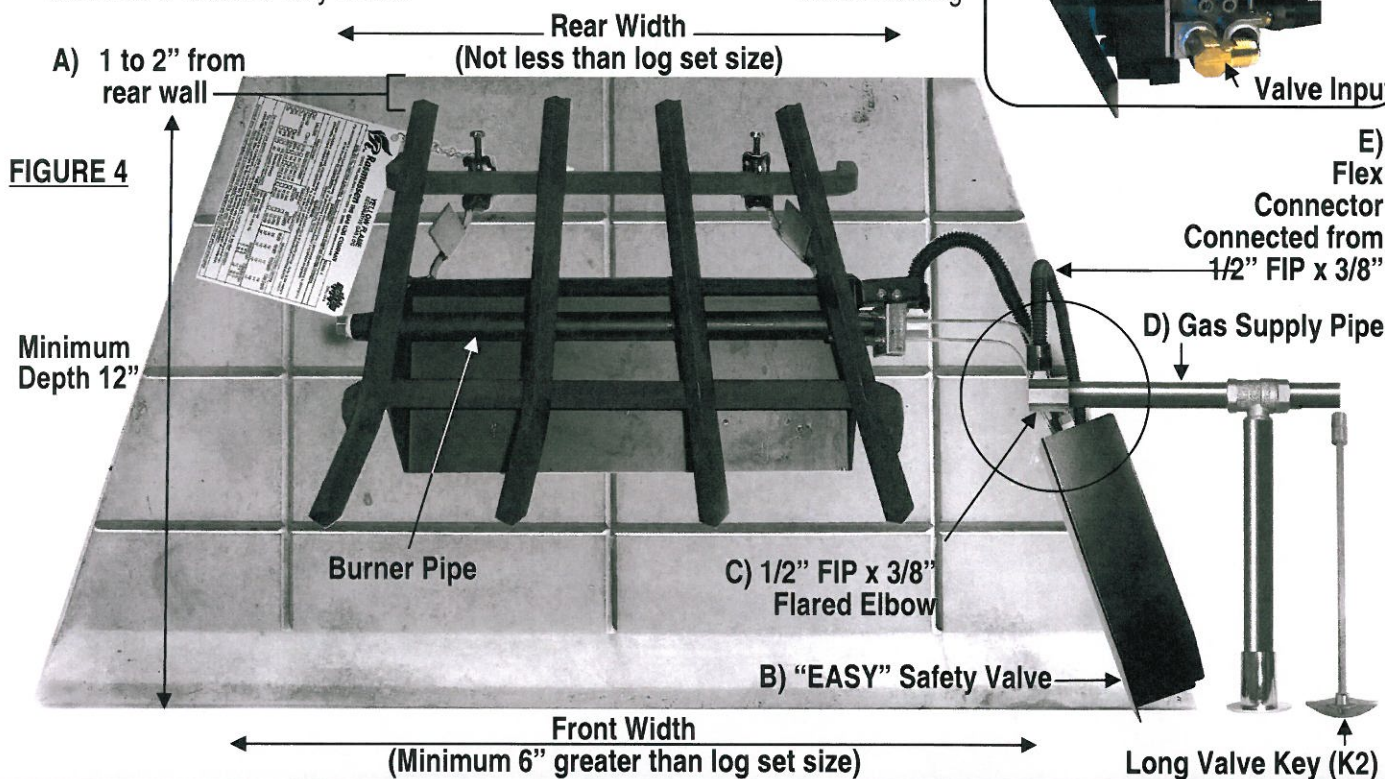

FIGURE 4
1. Place **Burner-Grate Assembly** inside the firebox, centered from left to right, within 1" to 2" of rear wall (Figure 4).